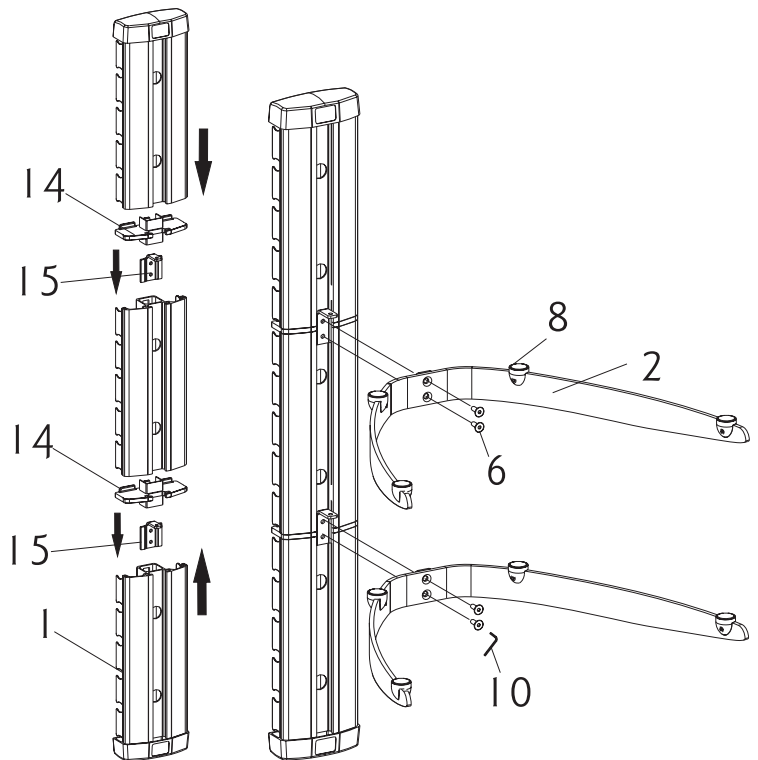

Fig. 2
Slide the two Joint Planks (15) into the Wall Brackets (1) and join the three Wall Brackets using the Joint Blocks (14) (see Fig. 2). Attach the two Shelf Brackets (2) to the Joint Planks in the Wall Brackets using the Socket Head Bolts (6) with the 3x3mm Hex Wrench (10). Do not overtighten the bolts.